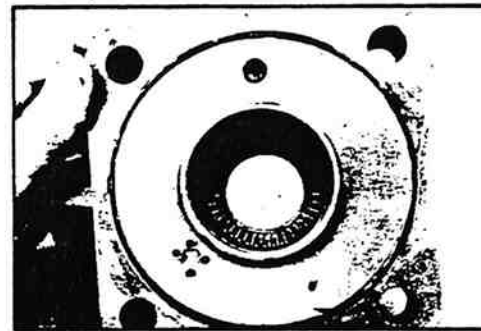

Figure 11-78. Bearing Centered in Counterbore.
27. Apply a generous amount of clean grease to the thrust bearing (23). Install the thrust bearing into the valve housing (onto the thrust washer), making sure to center the bearing on the washer (figure 11-78).